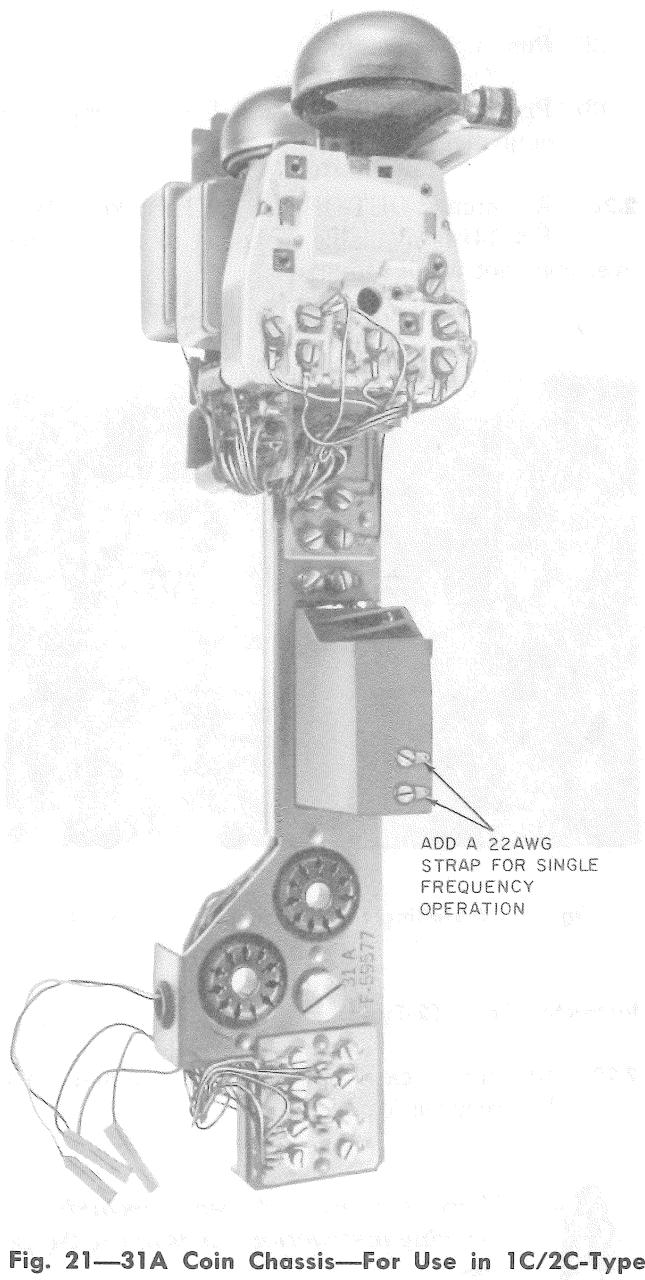

Fig. 21—31A Coin Chassis—For Use in 1C/2C-Type Sets
2.19 The 1A coin chassis (with SF coin tone oscillator) used in 1C/2C-type coin telephone sets is replaced by a 31A coin chassis (Fig. 21) which has a DF oscillator.